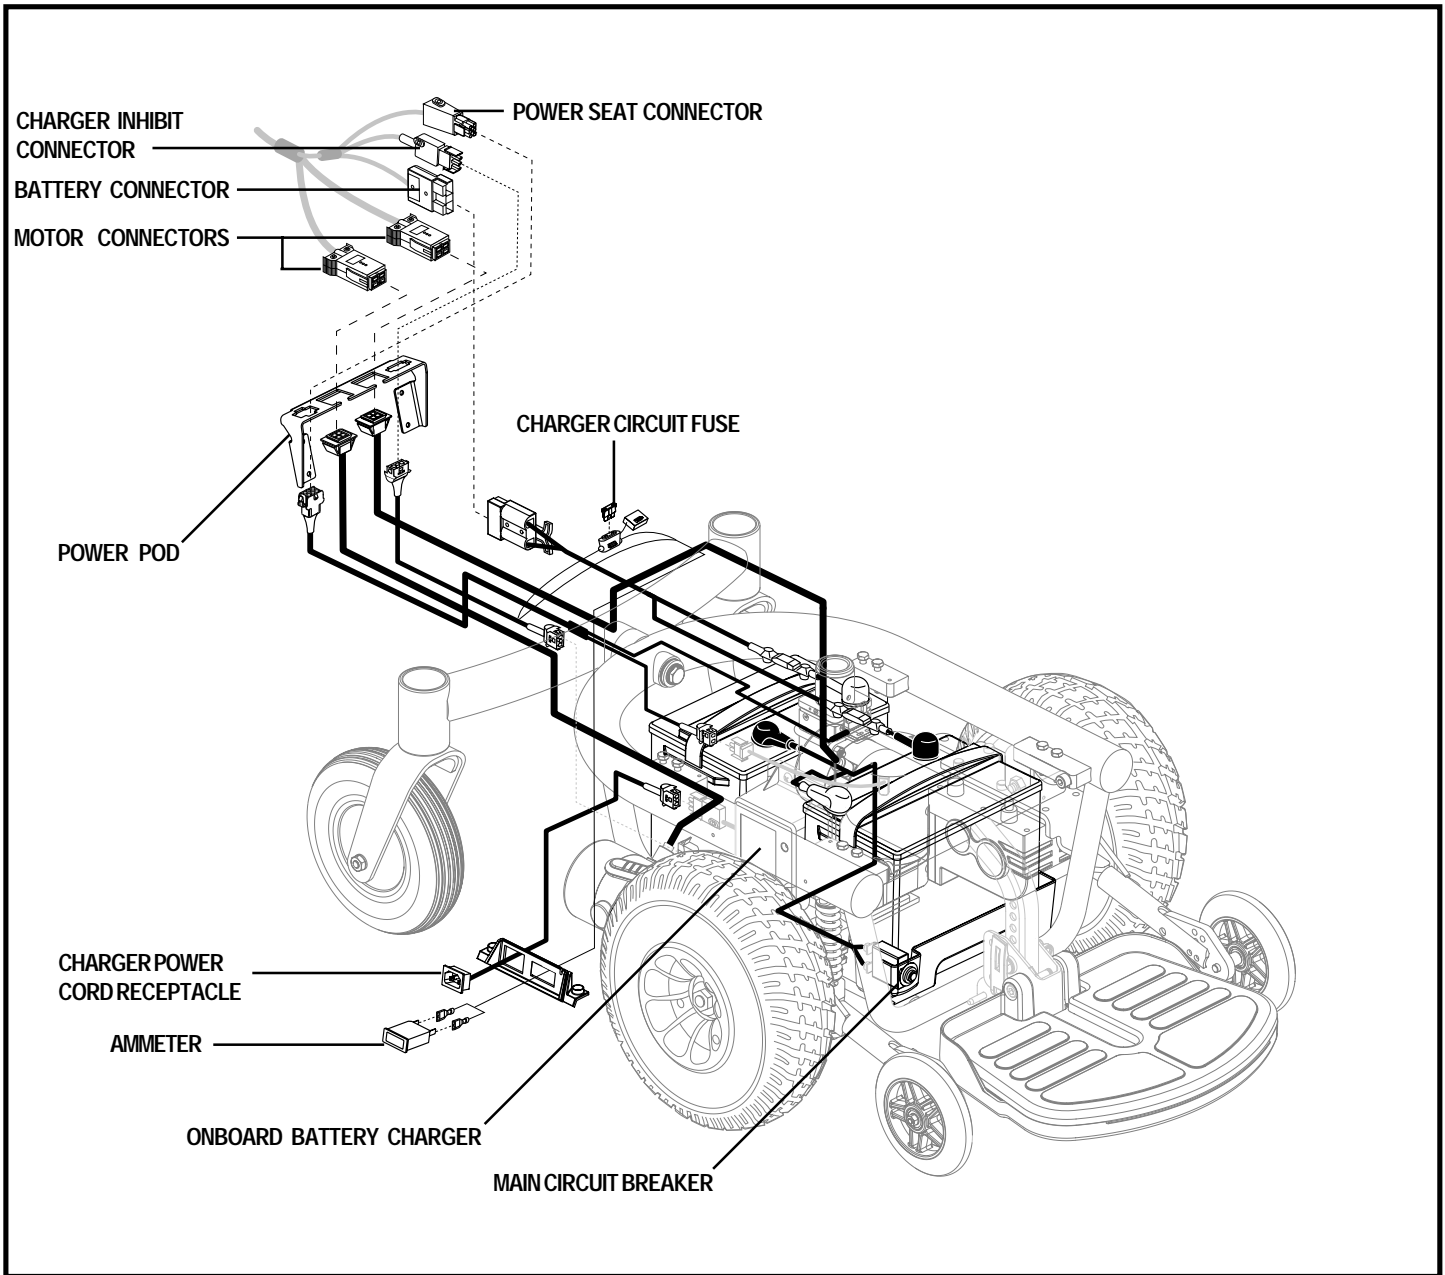

Figure 8. Jazzy 1143 Ultra Electrical Components (VSI Configuration Shown)
The electrical components are located inside the power base. The ammeter and the charger power cord receptacle are located on the right side of the power base. The main circuit breaker is located on the front of the battery tray. The motor connectors, the charger inhibit connector, and the power seat connector are located on the power pod, inside the power base. See figure 8.
8. Plug the motor connectors, the charger inhibit connector, and the battery connector into the power base. See figure 8.